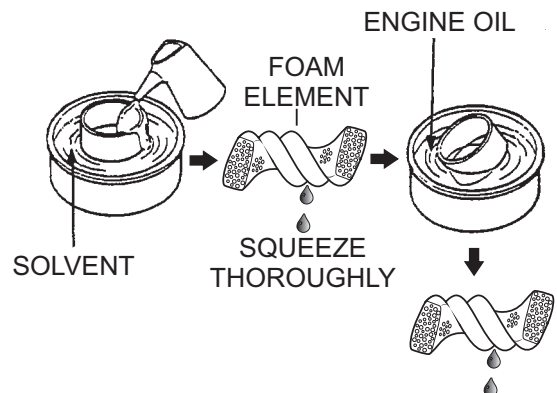

Figure 35. Cleaning Foam Element
3. Clean foam element in warm, soapy water or nonflammable solvent (Figure 35). Rinse and dry thoroughly. Dip the element in clean engine oil and completely squeeze out the excess oil from the element before installing.
2. Remove the air filter element from the cover. Wash the cover and filter element in warm soapy water, rinse, and allow to dry thoroughly. Or clean in non-flammable solvent and allow to dry (Figure 35).
3. Dip the filter element in clean engine oil (Figure 35), then squeeze out all excess oil. The engine will smoke if too much oil is left in the foam.